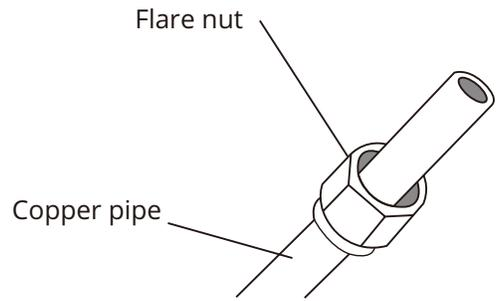

Fig 6.3
- Place flare nuts on both ends of pipe. Make sure they are facing in the right direction, because you can't put them on or change their direction after flaring. See **Fig. 6.3**.